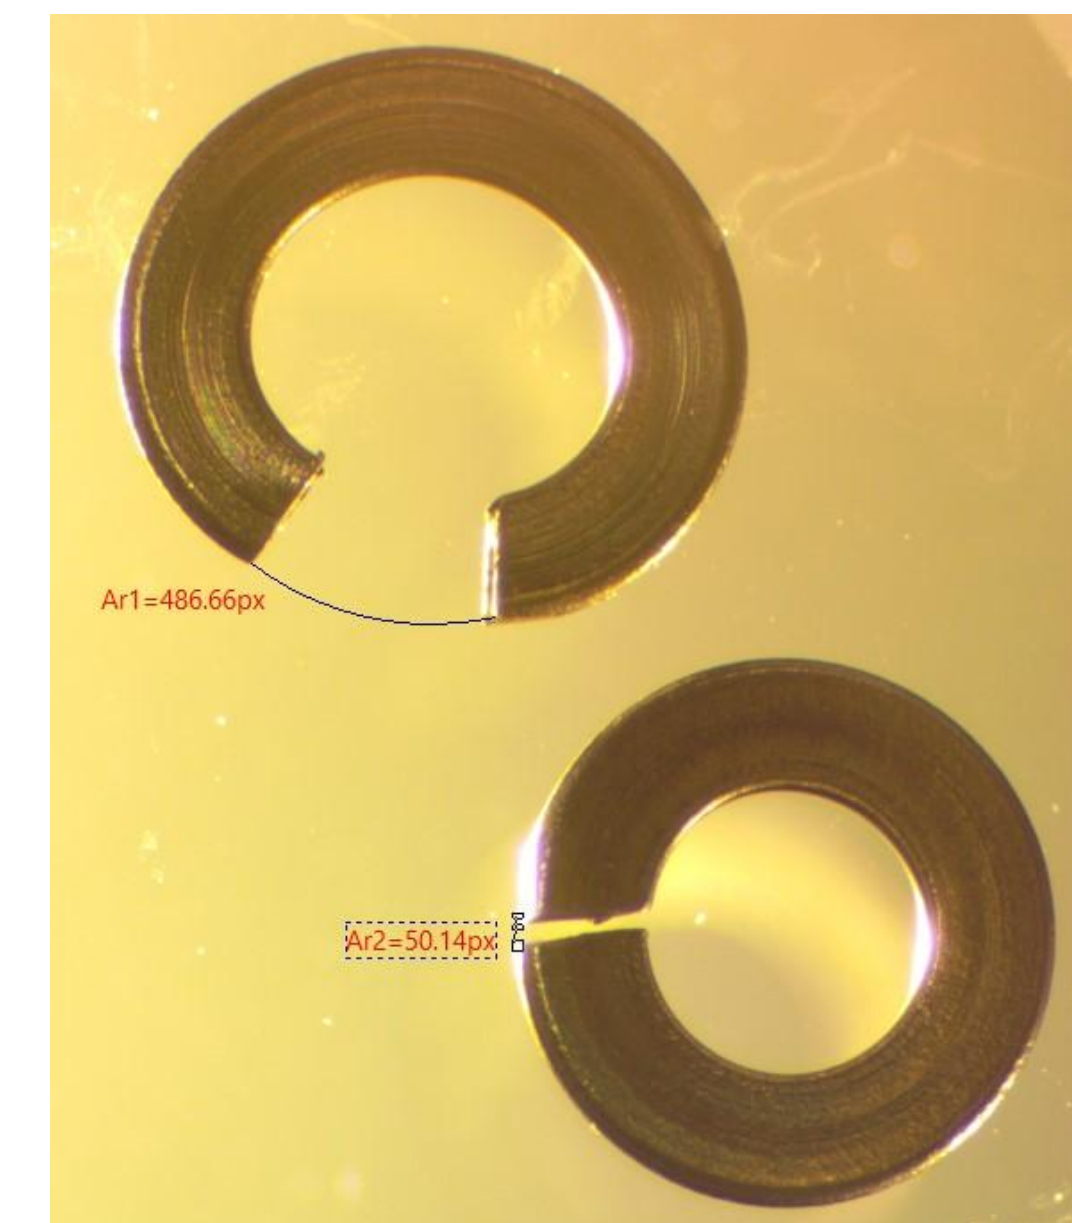

Figure 4: Deformed split lock washer from tapered screw head next to unused split lock washer
- Deformation resulted from the tapered screw head causing the washer to expand (Figure 4)